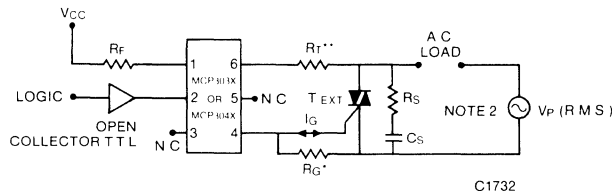

Figure 7 For Load Current IL ≤ 50mA RMS - Interface Via External Triac (TEXT)
Typical Snubber Values — Fig. 7. Circuit Driving Inductive Load:
1. MCP304X and TEXT VDRM ≥ 400 V recommended for 120 V Inductive Loads - Fig. 7